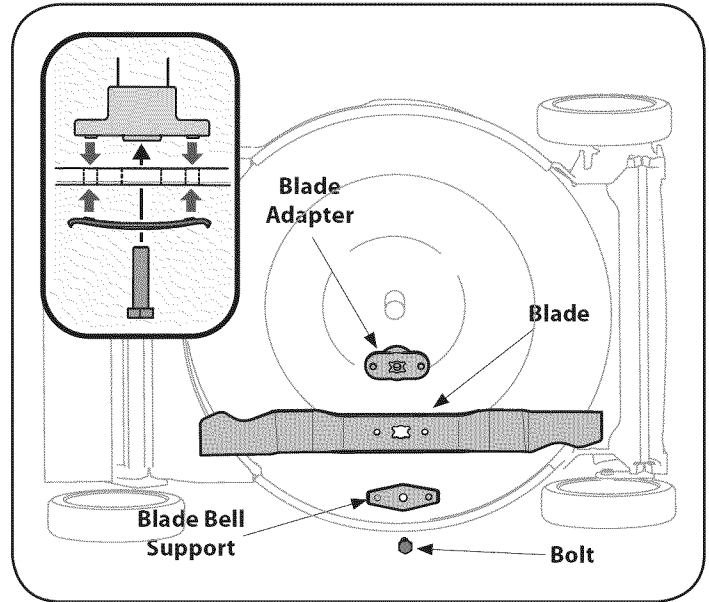

Figure 19
2. Remove the bolt and the blade bell support which hold the blade and the blade adapter to the engine crankshaft. See Figure 19.
5. Lubricate the engine crankshaft and the inner surface of the blade adapter with light oil. Slide the blade adapter onto the engine crankshaft. Place the blade on the adapter such that the side of the blade marked "Bottom" (or with part number) faces the ground when the mower is in the operating position. Make sure that the blade is aligned and seated on the blade adapter flanges. See Figure 19 inset.